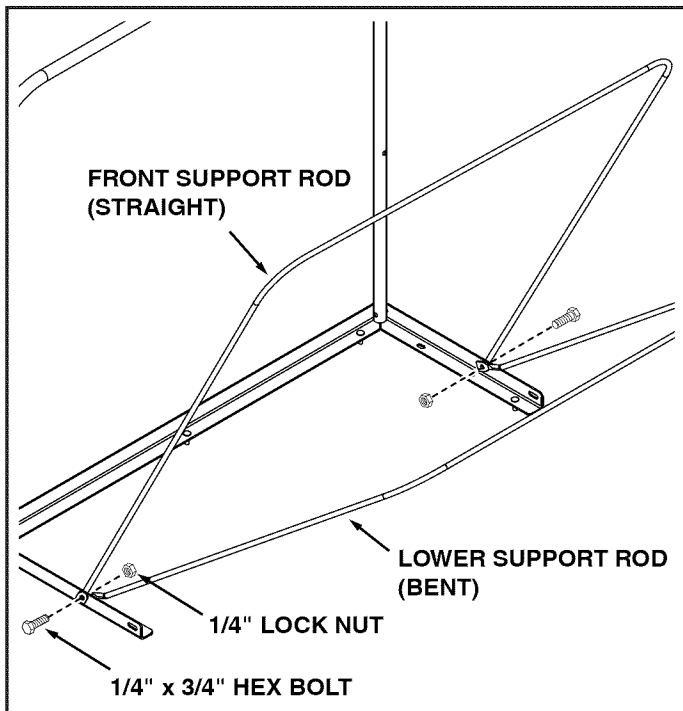

FIGURE 19
- Place the front support rod on the **outside** and the lower support rod on the **inside** of the top angle support. Attach using two 1/4" x 3/4" hex bolts and 1/4" lock nuts. **TIGHTEN** nut only until flush with end of bolt. The rods must pivot freely. See figure 19.